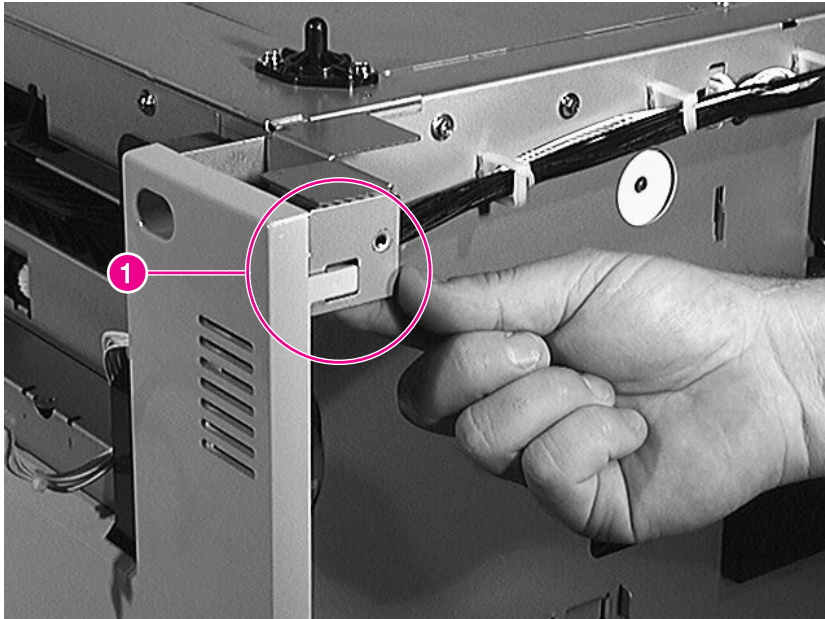

Figure 6-89 Right Cover (3 of 3)
- 4 Release the tab from the right side of the Right Cover as shown in figure 6-89 (callout 1).